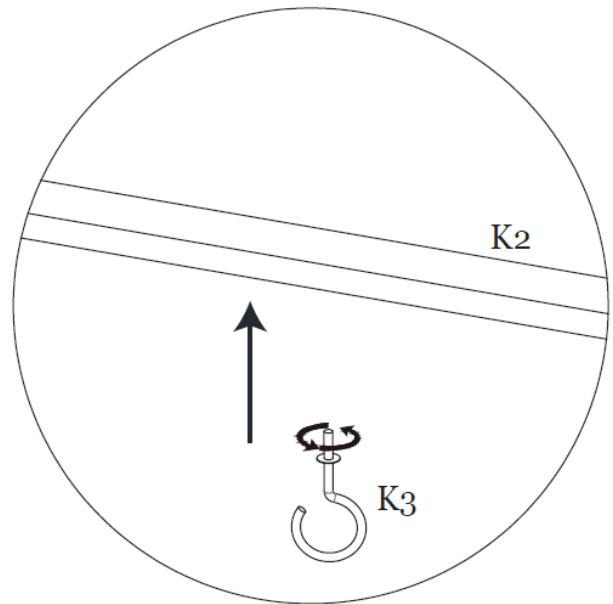

Figure 8-2
Step 8B: Screw in Roof Vent Hook (K3) into Roof Vent Center Support (K2). See Figure 8-2.